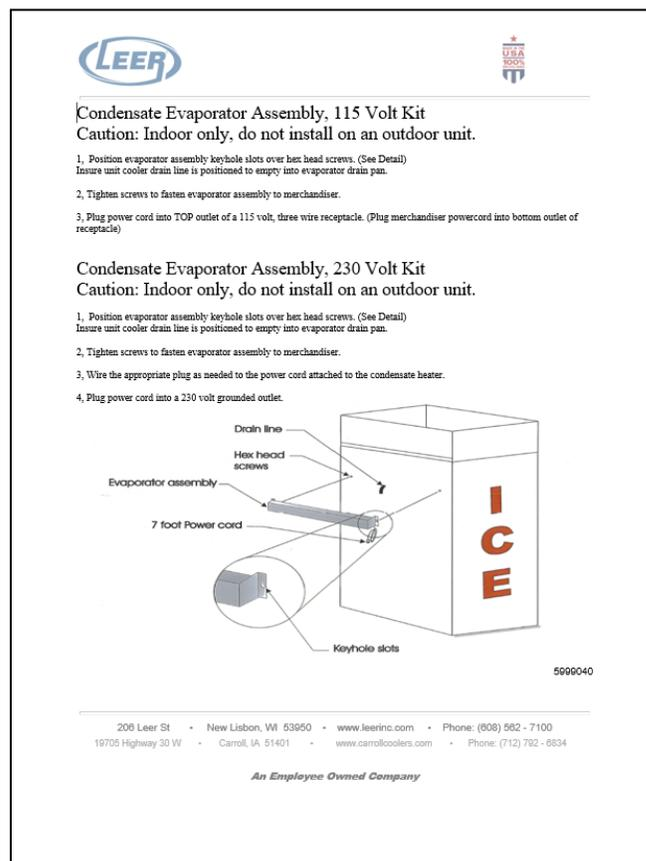

Figure 2: Condensate Evaporator Installation
**Condensate Evaporator:** Indoor auto-defrost models are supplied with a condensate evaporator heater assembly which is packaged with instructions and shipped inside the merchandiser. It will require simple installation by the consumer (see Figure 2). A separate copy of this instruction sheet is supplied with the condensate evaporator assembly. The condensate evaporator assembly contains a drip pan to collect water generated by the merchandiser’s defrost cycle and a heat element to evaporate the water. Once energized, the heat element in the condensate evaporator assembly is continuously generating heat. The merchandiser is to be placed so that there is at least 1 inch of air space between the back surface